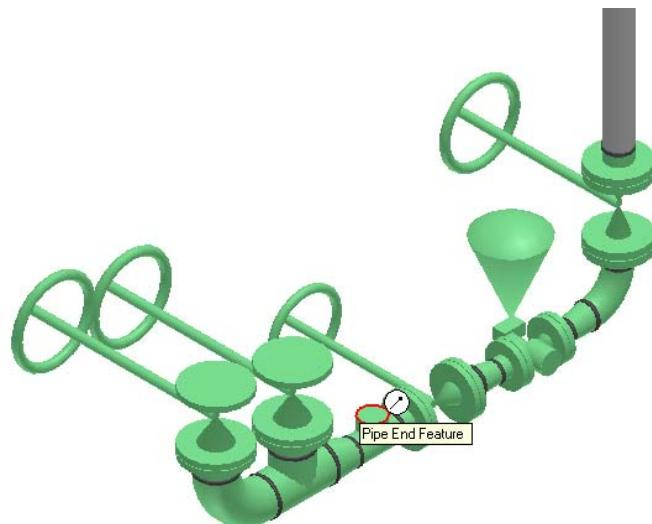

Figure 90: Selected Port 3 of the Tee
52. Select **port 3** of 4 inch the tee in the graphic view by using the SmartSketch options of SP3D, as shown in Figure 90.